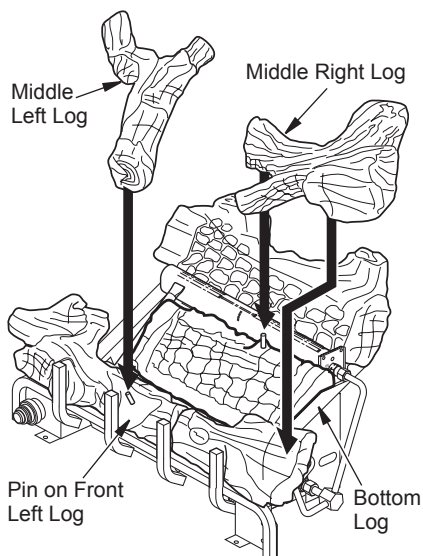

Figure 19 - Installing Log Set
5. Place middle right log over front right and bottom logs as shown in Figure 19. Be
6. Place middle left log over front left and bottom logs as show in Figure 19. Be sure hole in middle left log seats over pin in front left log.